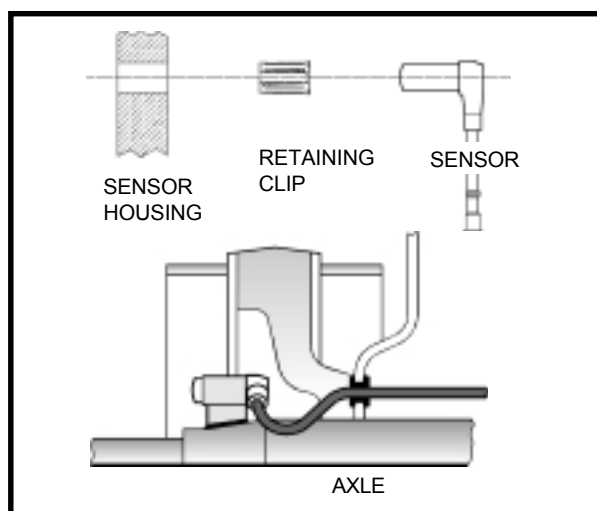

Fig 3.1 THE SENSOR ASSEMBLY
The Modular sensor design incorporates a permanent magnet and coil which are environmentally sealed in a stainless steel housing. The coil is connected to a moulded flying lead which is terminated with a connector. The sensors are secured in their housings on the axle by a retaining clip which must always be fitted to ensure system integrity (see Fig 3.1) The sensor is bracket mounted in the axle assembly with its magnetic pole in close proximity to the exciter teeth, maximum 0.5mm (0.020"). The teeth pass through the magnetic field causing a change in magnetic flux density which in turn generates an alternating voltage in the sensor coil. The frequency of the voltage generated is directly proportional to wheel speed. It is this signal which is monitored by the ECU to determine changes in wheel speed.
6. The sensor may be greased prior to assembly and then pressed firmly into the retaining clip until the sensor cable exit shoulder abuts against the inboard face of the housing, ensure the cable is not under tension or fouling the brake shoes or return springs (see Fig 3.1).